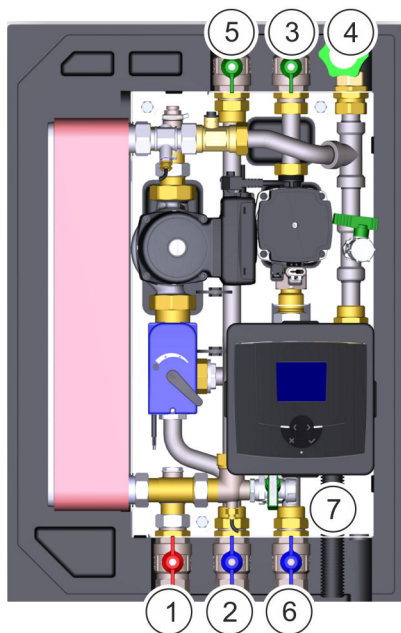

Fig. 22: Connecting cocks
■ The fresh water station was prepared in accordance with Fig. 22.
1. ➔ Connect the main drinking water inlet line to the main drinking water connection (Fig. 22/4).
2. ➔ Connect the hot water line to the connection for drinking water distribution (hot) (Fig. 22/5).
3. ➔ Connect the main inlet line for the heater flow line to the primary connection for the heat supply flow line (Fig. 22/1).
4. ➔ Connect the main inlet line for the heater return line to the tank integration in the middle (optional) (Fig. 22/2).
5. ➔ If installed, connect the circulation line to the connection for integrated circulation (Fig. 22/3).